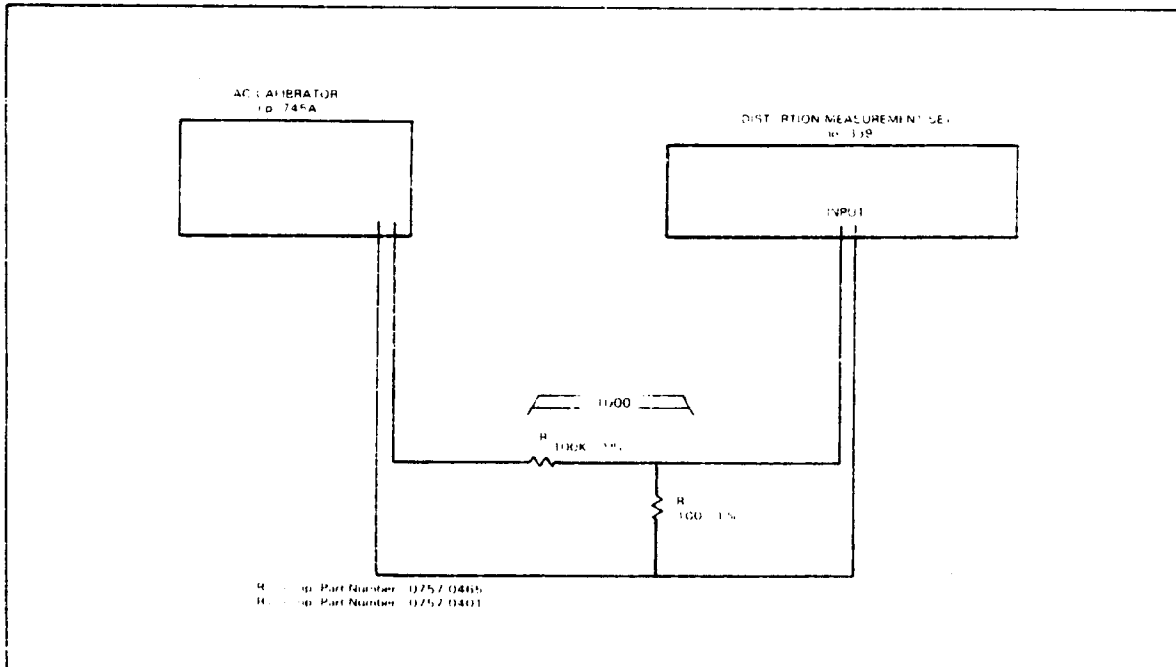

Figure 4-1a. Full-Scale Accuracy and Frequency Response Test Equipment Set-up For Option 001.
- b. Set-up the test equipment as shown in Figure 4-1a.